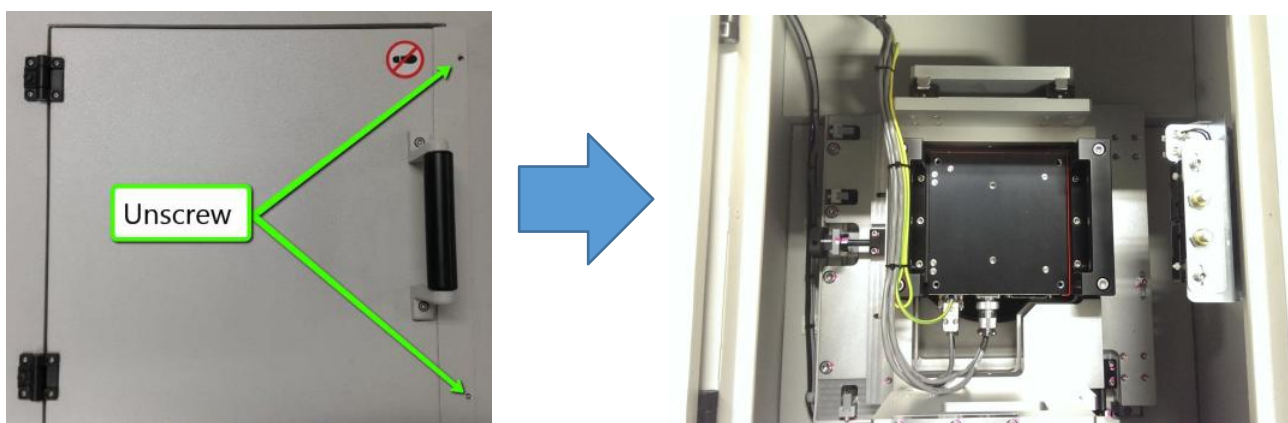

Figure 3
4. Unscrew and open the top access door as shown Figure 3.